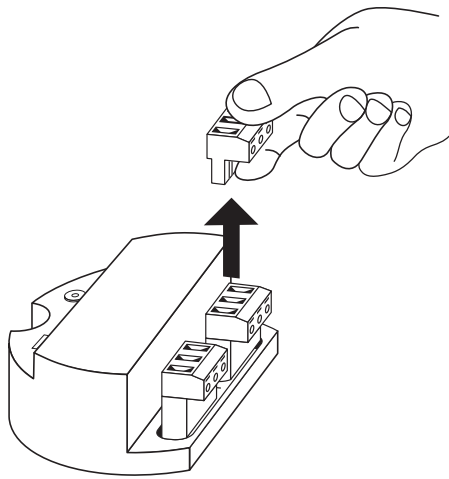

Figure 5
3. Connect power leads to the proper terminals. To simplify wiring, the terminal strips may be removed from the module by lifting the front edge of the terminal block. Refer to Figure 5.